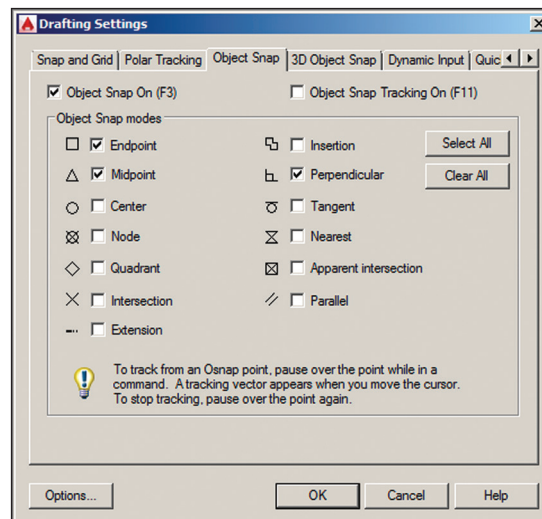

FIGURE 3.11 Turning on a few Running Object Snap modes
- Toggle on **Object Snap** on the status bar. Right-click the same icon and choose **Object Snap Settings** from the context menu. Click the **Clear All** button and then select **Endpoint**, **Midpoint**, and **Perpendicular** (see Figure 3.11). Click **OK**.